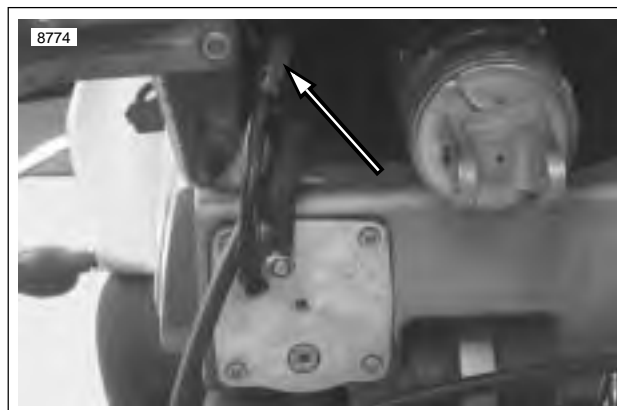

Figure 4-137. Fuel Pump connector [86] (swingarm removed for illustration)
- a. See Figure 4-137. Disconnect the 4-place fuel pump connector [86]. The connector is located inside the left rear portion of the fuel tank/frame.
7. See Figure 4-137. Attach fuel pump connector [86] to main wiring harness.